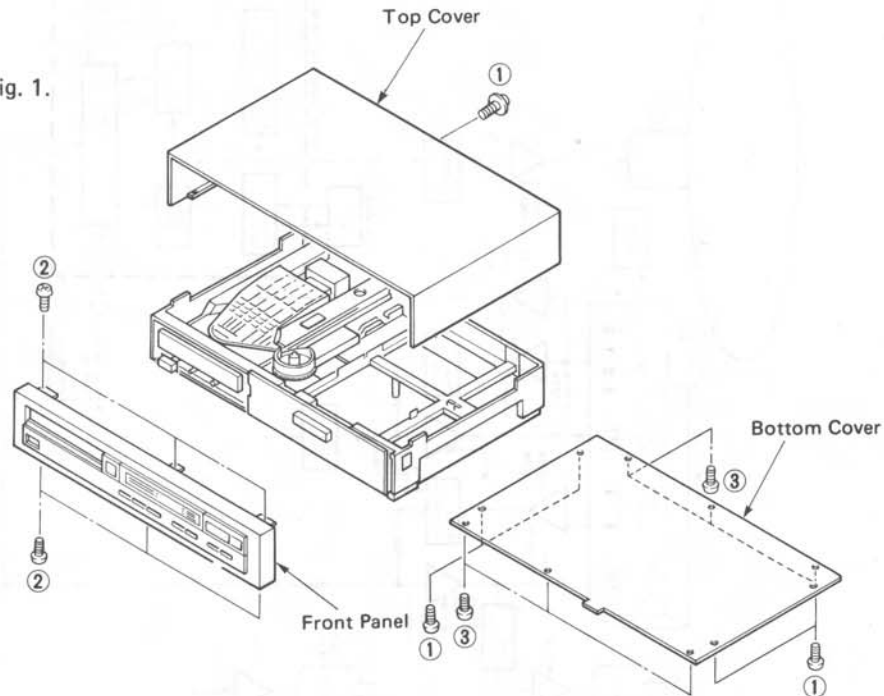

Fig. 1
Remove 5 screws ( ① ) in fig. 1, and slide the Top Cover to the back.
Remove 7 screws ( ② ) in Fig. 1, and pull the Front Panel forward.
Remove 6 screws ( ③ ) in fig. 1.